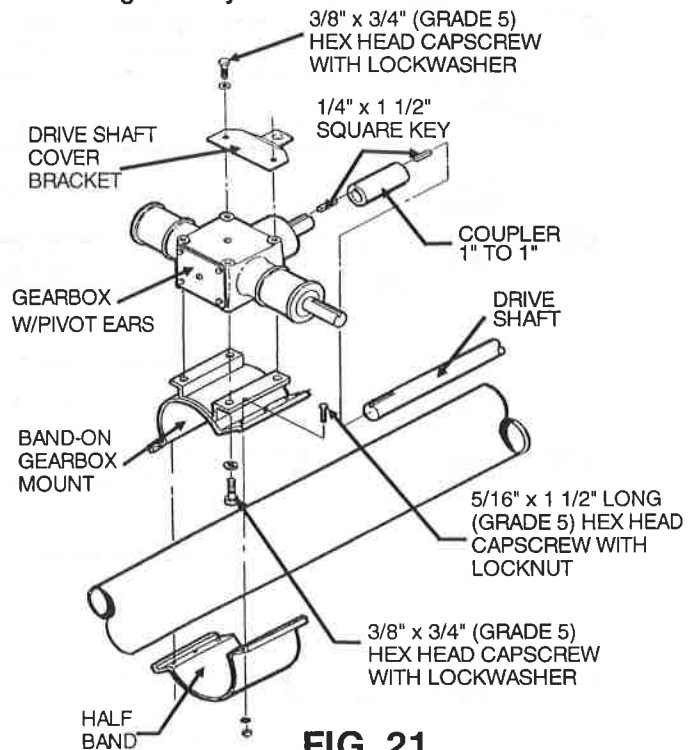

FIG. 21
Step 3. Set gearbox on auger and connect to drive shaft with coupler and two 1/4" x 1 1/2" long square keys. (See Fig. 21.)